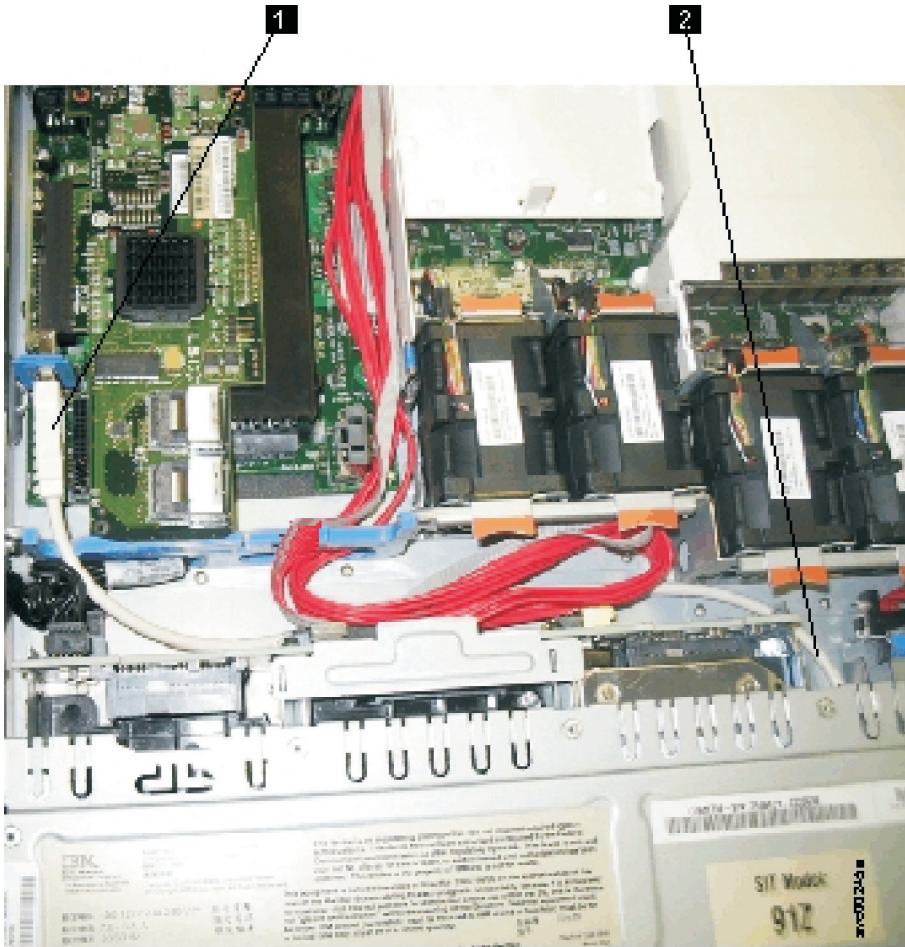

Figure 75. USB service-controller cable connected to the disk controller and USB riser card (SAN Volume Controller 2145-CF8 shown)
- b. Locate the USB connector (**1** in Figure 75 on page 89) on the left side of the SAN Volume Controller 2145-CG8 or 2145-CF8.
- a. To reinstall the cable, *carefully* thread the USB cable through disk-drive bay 5, routing the larger connector of the cable to the USB connector (**1** in Figure 75 on page 89) on the USB riser card. Route the cable beneath any red SAS cables that are attached to the disk backplane.